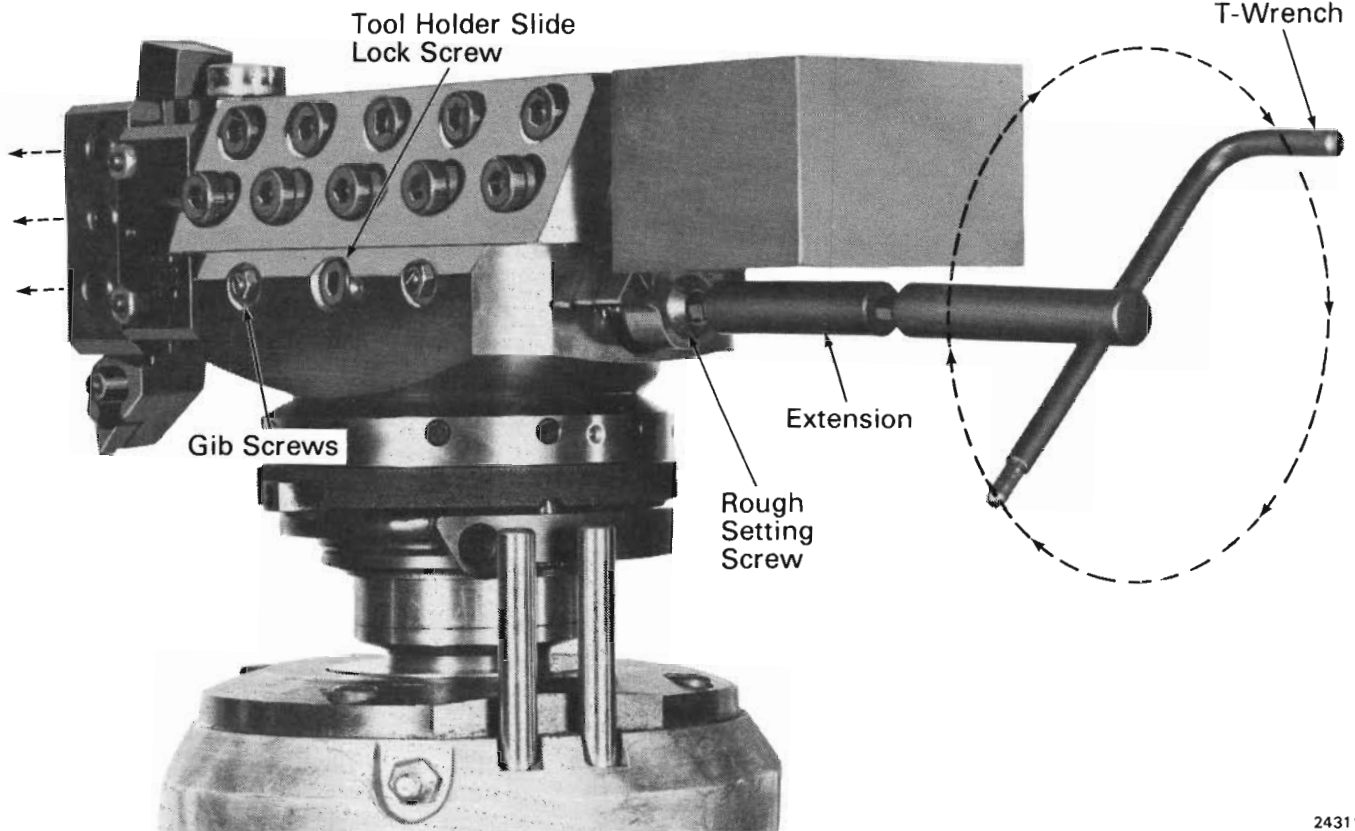

Fig.8 – Manual Operation Of Tool Holder Slide
1. Confirm that tool holder slide lock screw, Fig. 8, is not tightened. Use T-wrench to turn lock screw.
If movement is rough, adjust gib screws, Fig. 8, and clean slide surface. If lubrication is required, see lubrication section.
arrow until cutting tool edge is adjusted to the proper diameter, Fig. 8.
3. Position cutting tool over highest spot to be machined, by turning rough setting screw with T-wrench, Fig. 8.